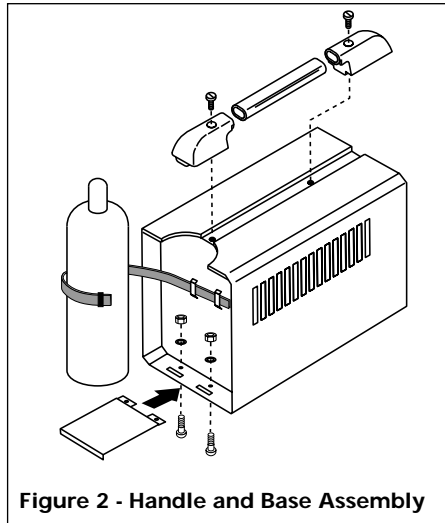

Figure 2 - Handle and Base Assembly
1. Slide handle into plastic ends as shown (Fig. 2).
4. Attach cylinder base to unit as shown (Fig. 2).